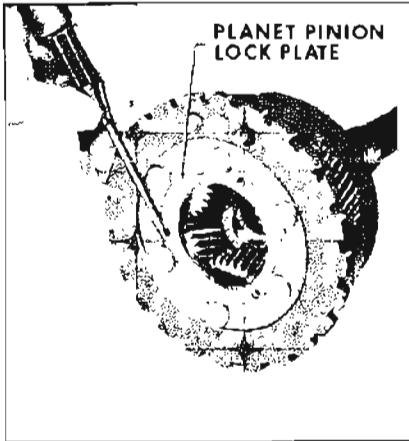

Figure 5-273
4. Coat inside pinion gear with petrolatum. Install Pinion Shaft into long planet pinion gear. Install twenty (20) needle bearings, spacer, twenty more needle rollers, and two (2) thrust washers. See Figure 5-273. Carefully remove pinion shaft. With a twisting motion lock both sets of needle rollers in place. See Figure 5-263.
12. Install planet pinion lock plate. Rotate plate so extended portions align with slots in planet pinion shafts, and three (3) attaching screw holes. See Figure 5-273.